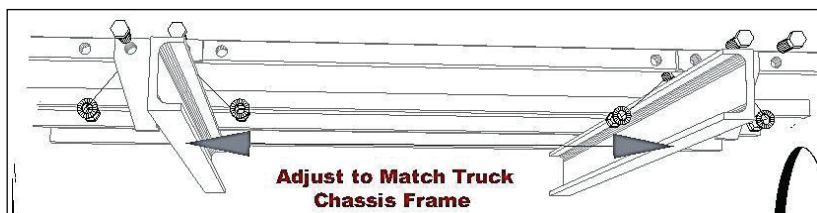

Figure 4
4. Note: The runner channels can be adjusted from 38" (965mm) to 42" (1066mm) on select models and sizes with $\pm 0.25"$ (6.35mm) tolerance. Runners on the cab and chassis trucks are welded at 34.25" (870mm). (See Figure 4).